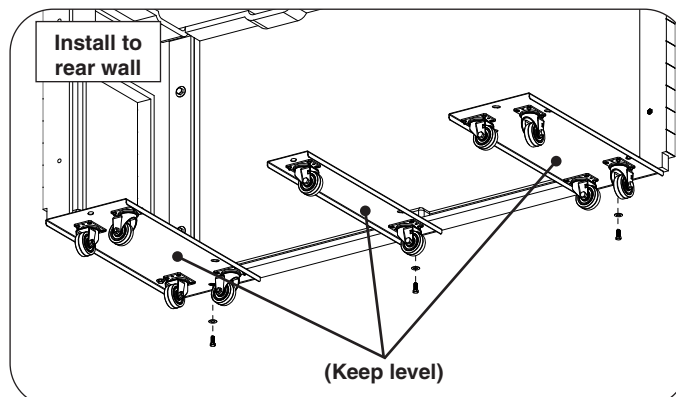

Fig. 4-3 Install wheel assemblies to bottom of rear wall
2. Repeat for the rear wall using the three wheel assemblies as shown in Fig. 4-3.